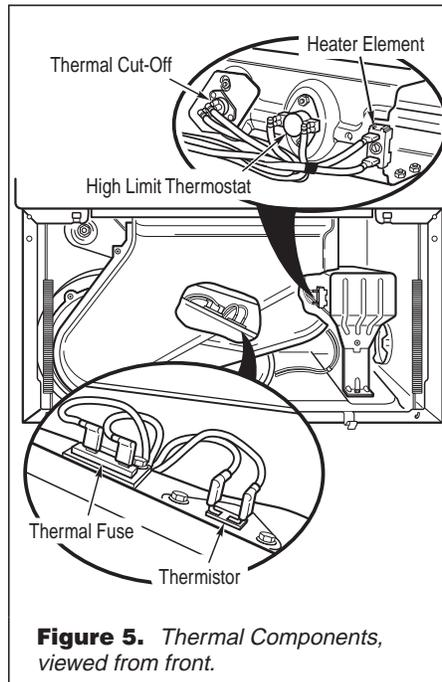

Figure 5. Thermal Components, viewed from front.
2. Remove the toe panel to access the thermal components. See figure 5.
- If the thermal fuse is open, replace it. Check for failed thermistor, shorted heat element, blocked vent or other cause of failure. See figure 5, page 5.
3. Using an ohmmeter, check the continuity across the thermal cut-off. See figure 5, page 5 for location.